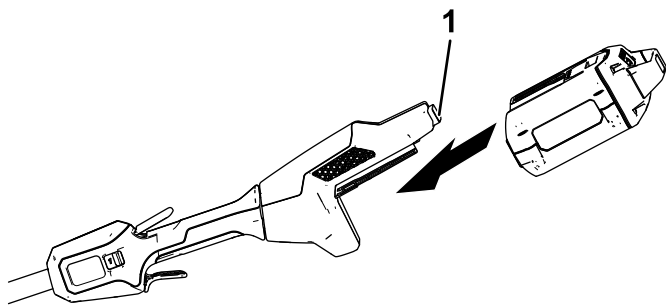

Figure 10
2. Align the cavity in the battery pack with the tongue on the handle housing (Figure 10).
3. Push the battery pack into the handle until the battery locks into the latch (Figure 10).